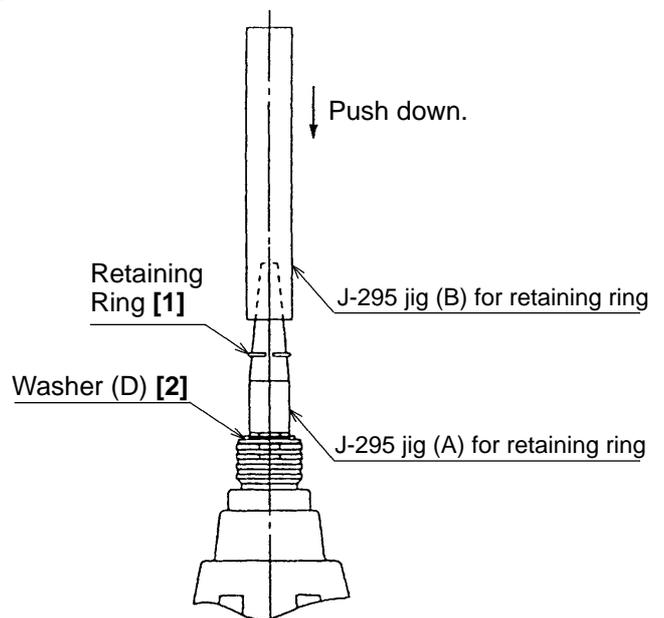

Fig. 6
(5) Reassembly of the Guide Sleeve [4] (for WH 12DH only)
Insert the Steel Ball D3.5 [7] into the hole of the Anvil (B) [8]. Mount the Guide Sleeve [4], the Guide Spring [3] and Washer (D) [2] in sequence. Mount the Retaining Ring [1] into the groove of Anvil (B) using the J-295 jigs (A) and (B) for retaining ring as illustrated in Fig. 6.